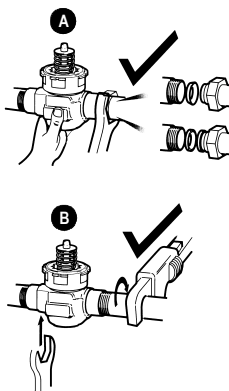

Fig. 5: Valve mounting
6. Either hold valve body in your hand (Fig. 5-A) or attach adjustable spanner (38mm or 1-1/2") across the hexagonal or flat faces on the valve body (Fig. 5-B). If assembly valve train on a bench, take care not to deform body with vice. Do not place the raised "H" logo between the jaws of the vice. Excess jaw force can deform the body.
7. Install the actuator by reversing the process in (2).